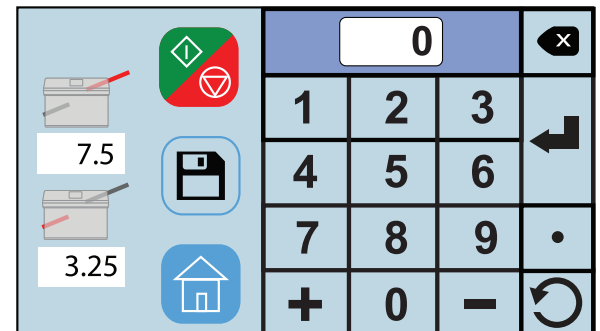

Fig. 28
4. Follow the same procedures as the custom fold settings to adjust the folds (Fig. 28). Load one form and press the “Start/Stop” icon  to confirm the change is correct. If the settings are good press the Save Icon  to save the new settings. A save confirmation screen will be displayed.